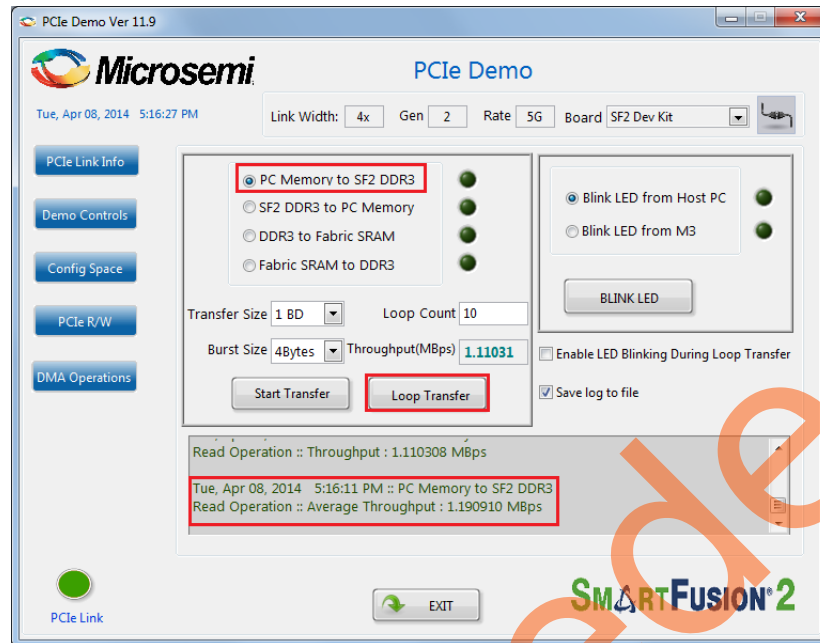

Figure 19 • Host PC to DDR3 Throughput
8. Enter 10 in the **Loop Count** box and click **Loop Transfer** to perform 10 sequential DMA transactions. The PCIe_Demo window displays the DMA throughput after completion of data transfer. Figure 19 shows the throughput of DMA transactions from host PC to DDR3. The average throughput is logged and the log file is stored at C:\PCIe_Demo\DriverInstall in the host PC.